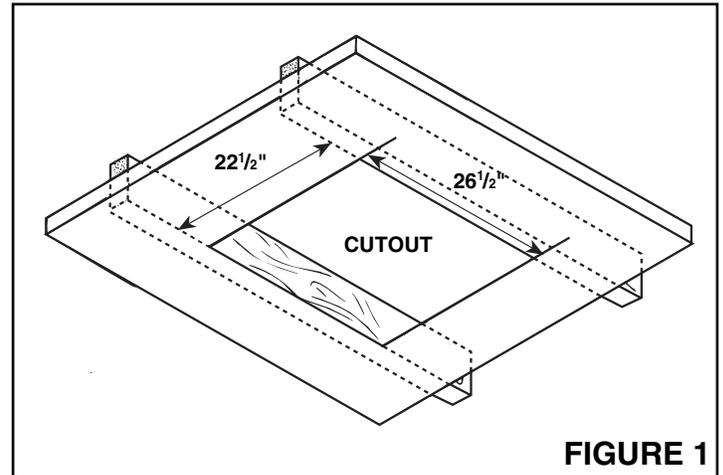

FIGURE 1
3. Refer to Figure 1. Using a right angle square to mark location of cutout for unit size 22¹/₂" x 26¹/₂" long.